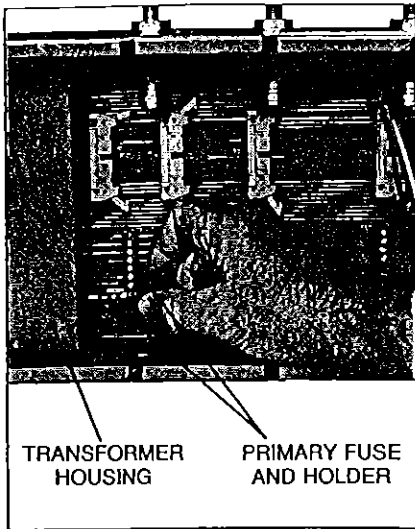
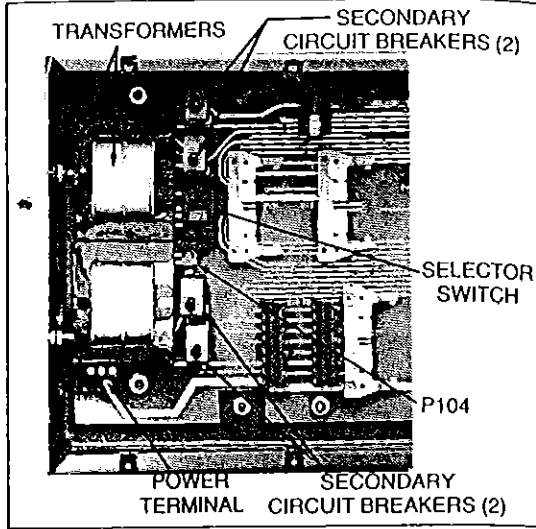
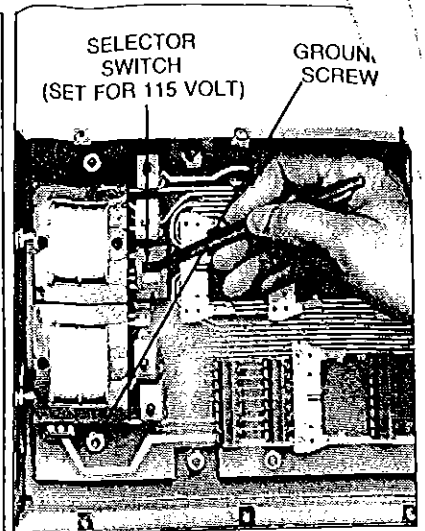

FIG. 8A — FUSE AREA
FIG. 8B — COVER OFF TRANSFORMER
FIG. 8C — SETTING SELECTOR SWITCH
1. Remove the transformer housing. The primary fuse and fuse holder should be taped to the housing. If not remove primary fuse and do not install until all modules are installed (See Fig. 8A). Bring 115 or 230 volts AC to the left side of the back box (See Fig. 8B) and connect conductors to points 1 and 3 of terminal strip TB101 and ground wire to grounding post. Electrical supply should be from the standard and essential electrical system, life safety branch. Verify that the selector switch is set for proper voltage (See Fig. 8C).
2. Connect the primary fuse clip to the terminal plug P104 (See Fig. 8B) on the mother board. Replace the transformer housing and primary fuse.